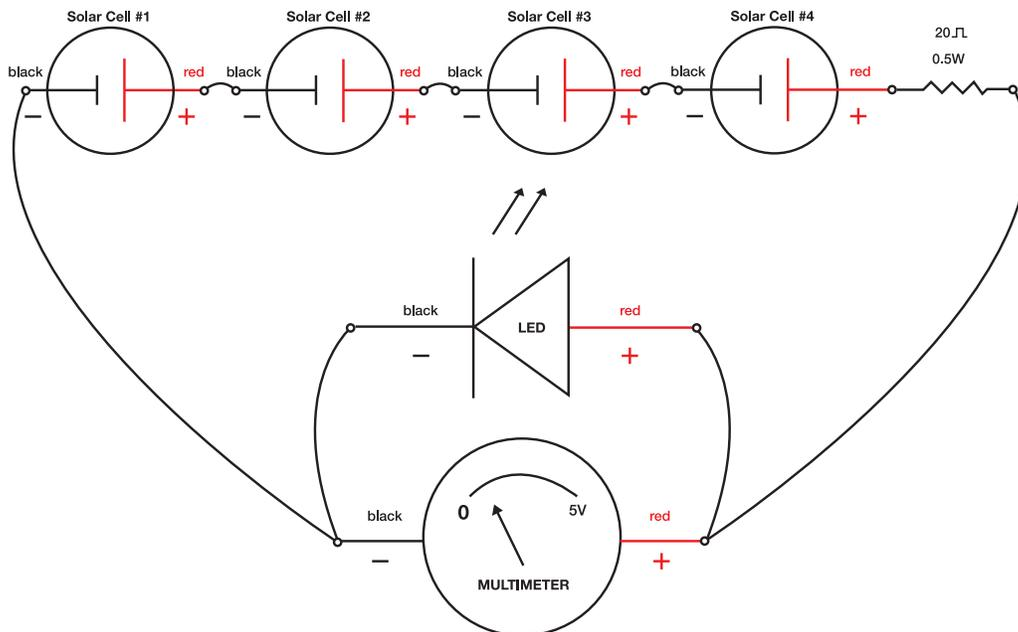

Figure 3. Electrical hookup to measure voltage.
2. To measure voltage across the LED, connect the multimeter, LED and solar cells together using alligator clips as follows (see figure 3):